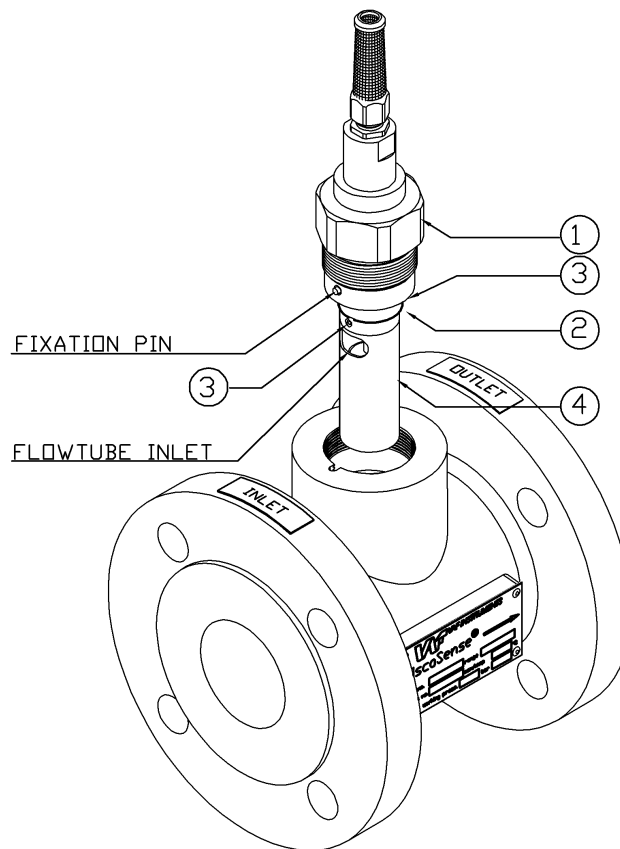

Figure 8 ViscoSense®2 sensor assembly
1. Remove dust caps from sensor housing and install housing stress-free, with shut-off valves and bypass valve in the fuel piping as illustrated in Figure 6. Take care that the flow direction is in accordance with the indication on the housing (inlet, outlet and arrow) as illustrated in figure 8. Support inlet and outlet piping sufficiently.
4. Install sensor carefully in housing with the flow tube inlet facing the flow, illustrated in figure 8.
Make sure the flow tube inlet is pointing towards the inlet of the sensor housing, see figure 8.
5. Unscrew the ViscoSense®2 sensor from its housing by loosening nut 1 (Figure 8 ViscoSense®2 sensor assembly).